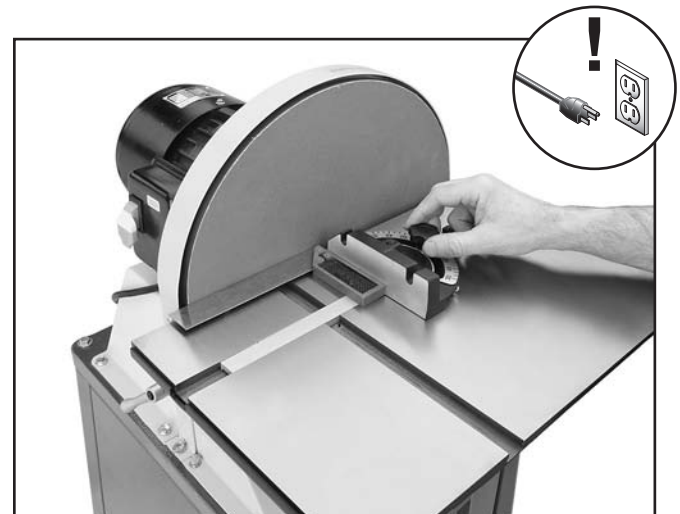

Figure 25. Squaring miter gauge to disc.
3. Use a try square or machinist's square with one edge against the face of the miter gauge and the other against the disc face, as shown in **Figure 25**.